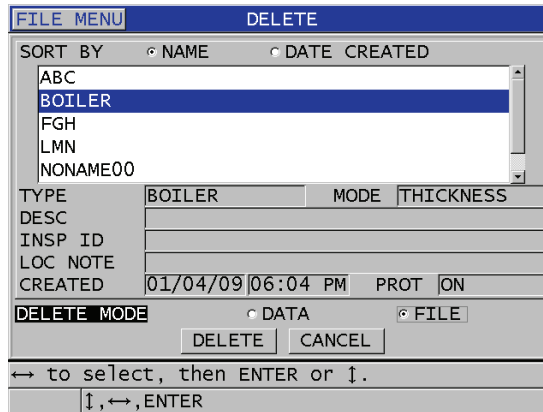

Figure 11-20 Deleting a file
3. In the **DELETE** screen (see Figure 11-20 on page 187):